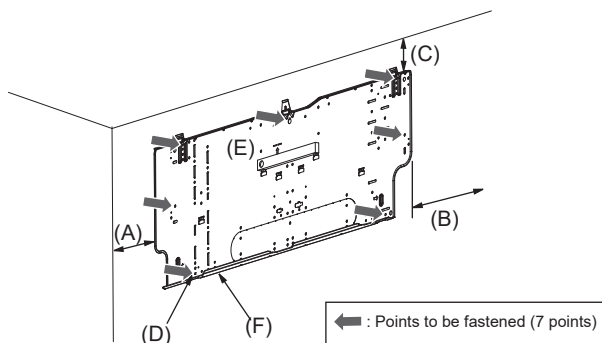

Fig. 3-4
3.2.3. Installing the mount board (Fig. 3-4)